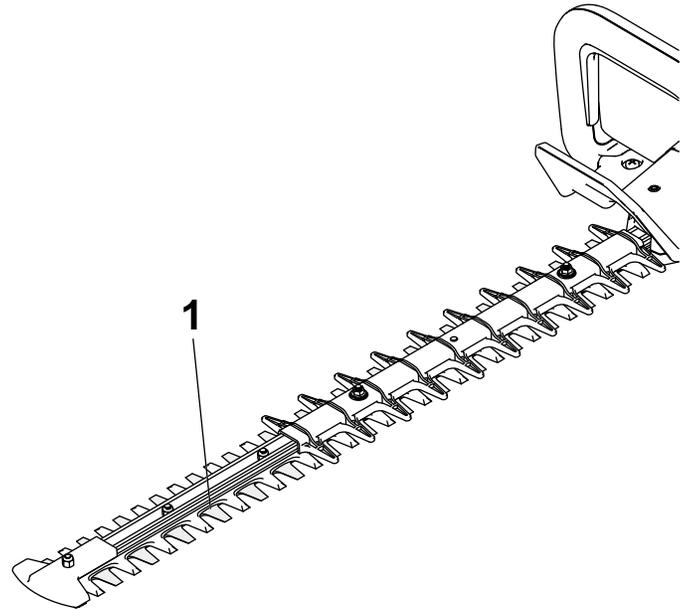

Figure 10
3. Apply light weight machine oil (such as #10) along the edge of the top blades (Figure 10).